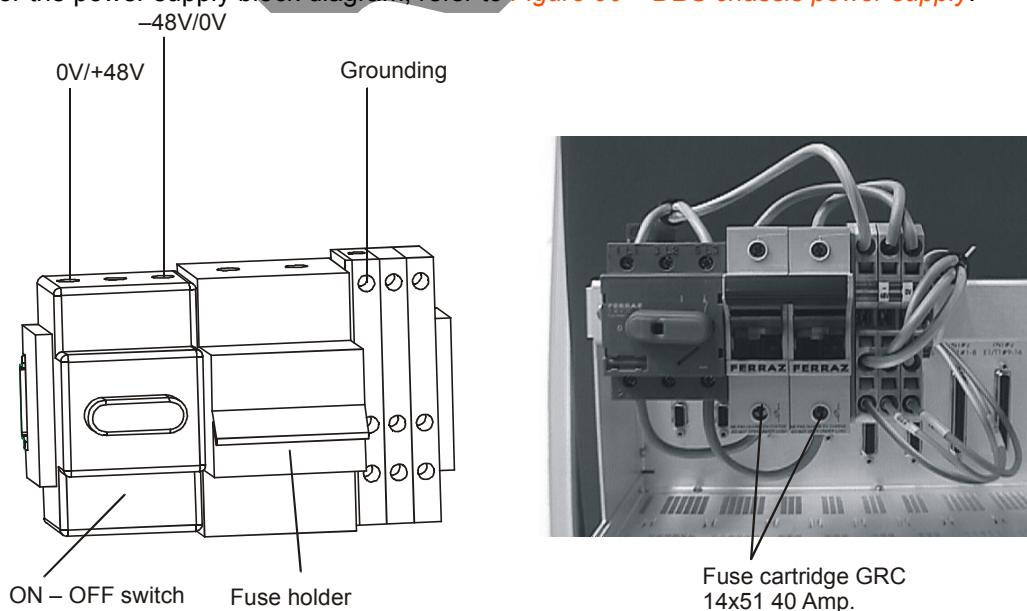

Figure 90 – DBS chassis power supply
- For the power supply block diagram, refer to *Figure 90 – DBS chassis power supply*: